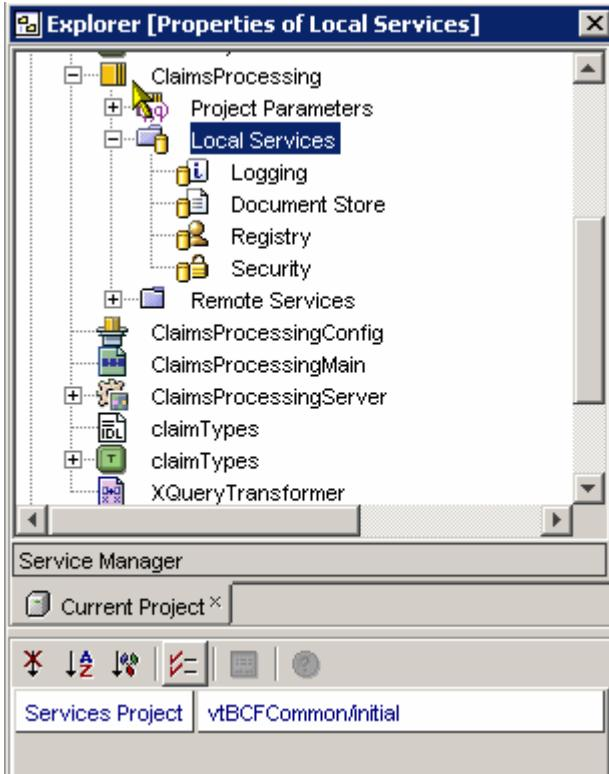

Figure 28-2 Setting the Services Project
2. In the Properties Window, set the **Services Project** property to the dependent project name and version as shown in Figure 28-2.